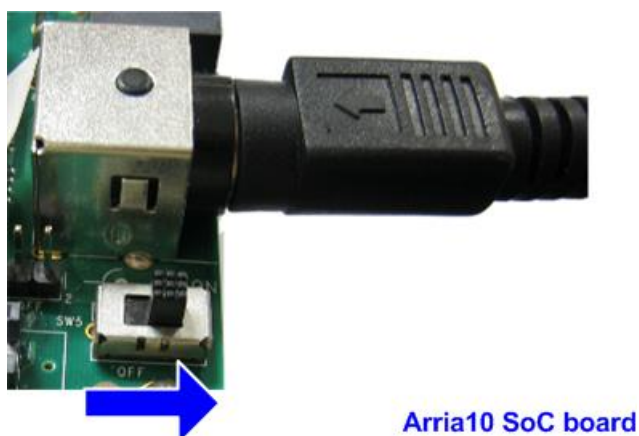

Figure 2-8 Power on FPGA board
- Connect FPGA power adapter to FPGA board, as shown in Figure 2-8.